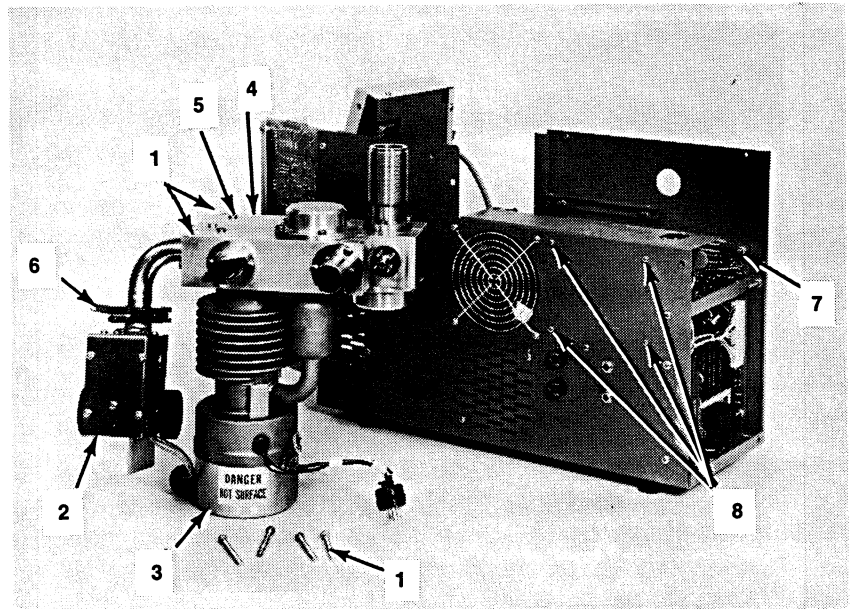

Fig. 4-5. Valve Block, Diffusion Pump, and Spectrometer Tube Removed From Cabinet
- 1. Reconnect diffusion pump to valve block assembly, using three 2½” long screws (5, Fig. 4-5).